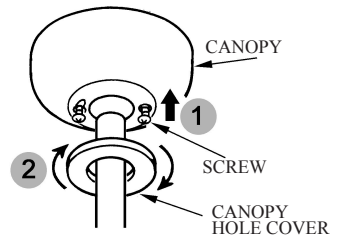

FIG.10
5. Retighten the two screws and place the canopy hole cover and twist the cover to tighter up (see Fig.10)